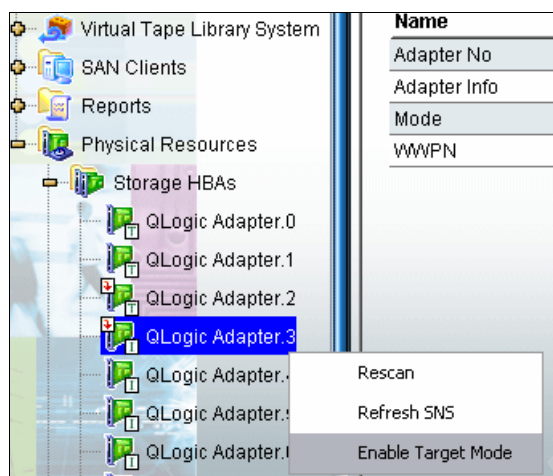

Figure 5-32 Selecting the Enable Target Mode option
1. Select **Physical Resources** → **Storage HBAs**. Right-click the adapter that you want to change and select **Enable Target Mode**, as shown in Figure 5-32.